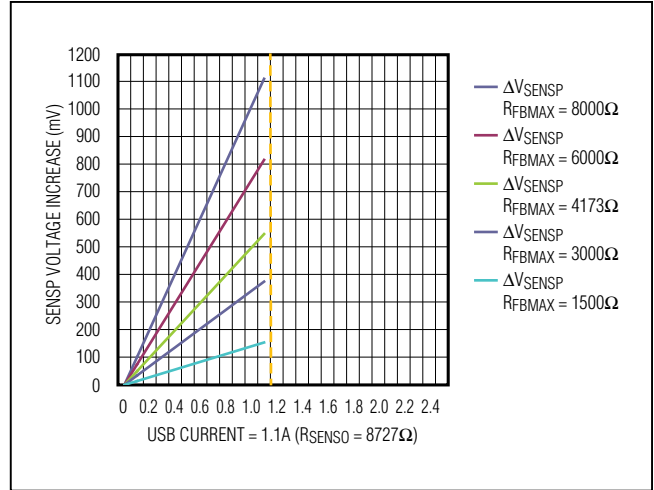
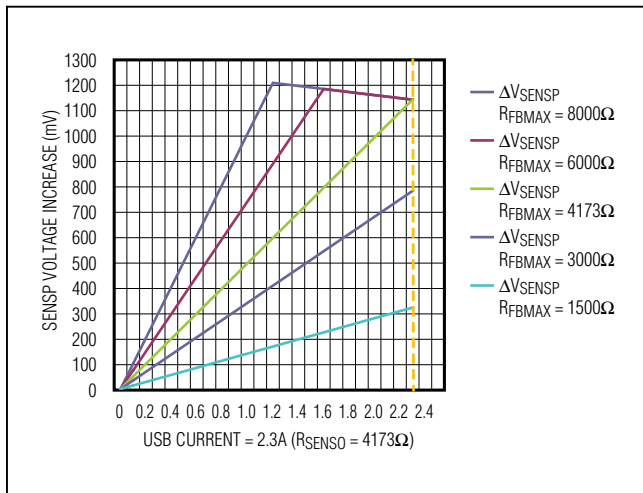

Figure 10. Increase in  $SENSE$  vs. USB Current
Figure 9. Increase in  $SENSE$  vs. USB Current
- Determine the setting needed for FBPER. This selects the  $SENSE$  Analog Adjustment Gain ( $A_{SENSE}$ ) to increase the DC-DC converter for the application and minimizes/optimizes the DC-DC adjustment range. See Figure 9 and Figure 10.